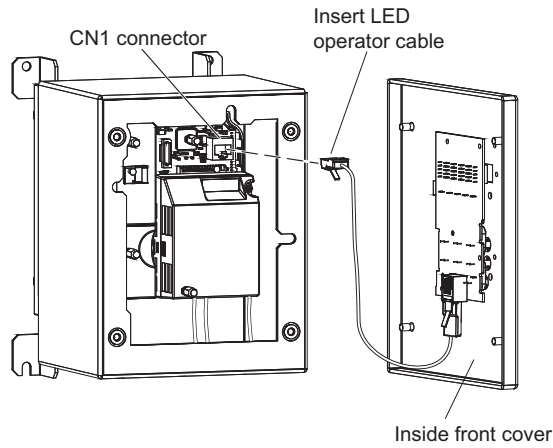

Figure 29 Insert LED Operator Cable
28. For IP66/UL Type 4X enclosure models, insert the LED operator cable from the front cover into connector CN1 on the drive (see **Figure 29**).